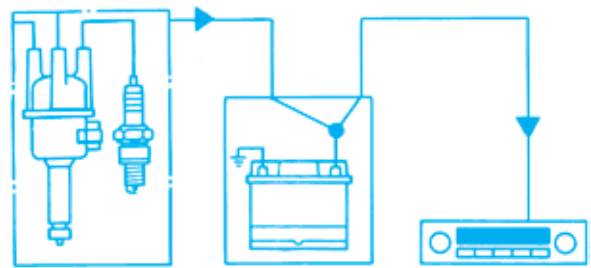

Figure 4-30. Wiring between the source of the interference and the receiver transmits conductive-coupling interference.
- Conductive coupling through circuit conductors (Figure 4-30).